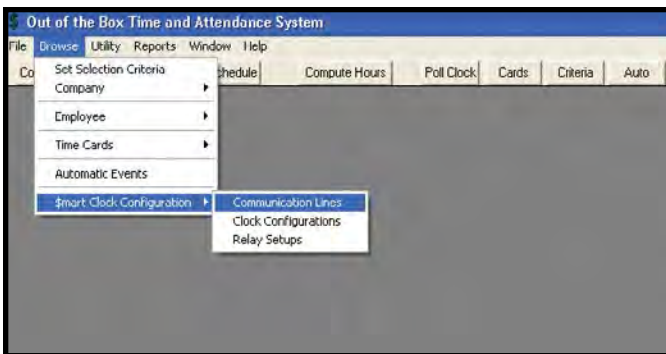

Figure 6. Out-of-the-Box™, Communication Lines
- IV. Open the Out-of-the-Box™ program and click "Browse" > "Smart Clock Configuration" > "Communication Lines" (see Figure 6).